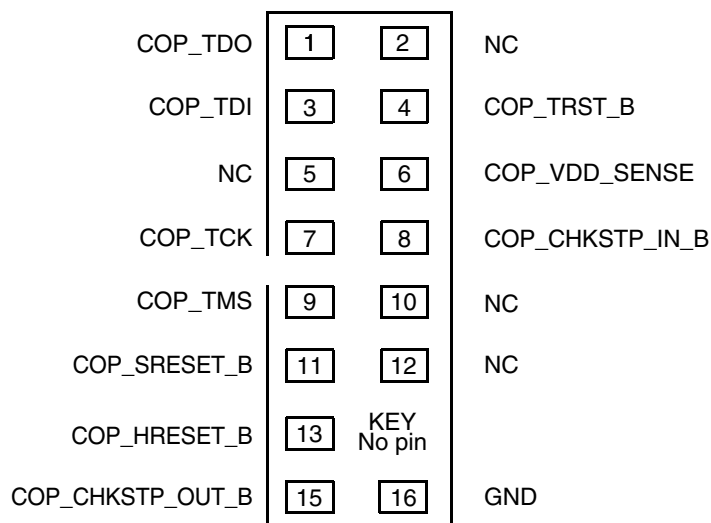
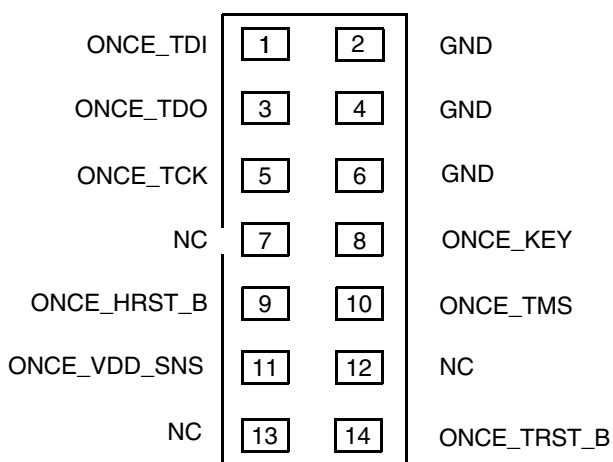

Figure 59. COP Connector Physical Pinout
Figure 60. ONCE Connector Physical Pinout
Correct operation of the JTAG interface requires configuration of a group of system control pins as demonstrated in Figure 59. Care must be taken to ensure that these pins are maintained at a valid deasserted state under normal operating conditions, because most have asynchronous behavior, and spurious assertion gives unpredictable results.
The COP function of the processor allow a remote computer system (typically, a PC with dedicated hardware and debugging software) to access and control the internal operations of the processor. The arrangement shown in Figure 59 and Figure 60 allows the COP/ONCE port to independently assert HRESET_B or TRST, while ensuring that the target can drive HRESET_B as well.
The COP interface has a standard header for connection to the target system. The 16-pin PA COP connector is shown in Figure 59.
The ONCE interface also has a standard header for connection to the target system. The 14-pin DSP ONCE connector is shown in Figure 60.
- TRST_B should be tied to HRESET_B through a 0 kΩ isolation resistor so that it is asserted when the system reset signal (HRESET_B) is asserted, ensuring that the JTAG scan chain is initialized during the power-on reset flow. Freescale recommends that the COP header be designed into the system as shown in Figure 59. If this is not possible,